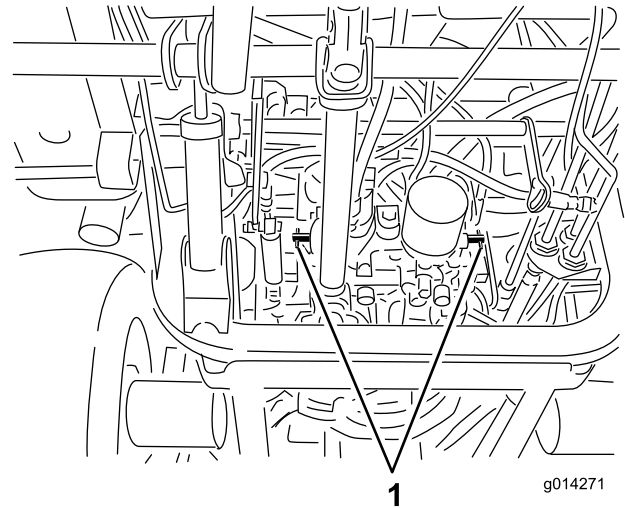

Figure 62
3. Rotate each bypass valve counterclockwise 1 turn (Figure 62).
1. Rotate each bypass valve clockwise 1 turn and hand tighten them (Figure 62).
2. Torque the valves approximately 8 N·m (71 in-lb) as shown in Figure 62.